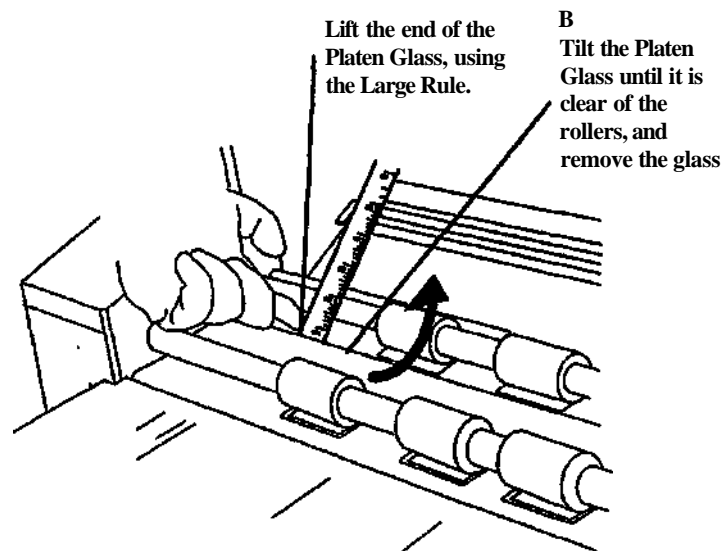

Figure 2. Removing the Platen Glass
3. (Figure 2) Remove the Platen Glass.